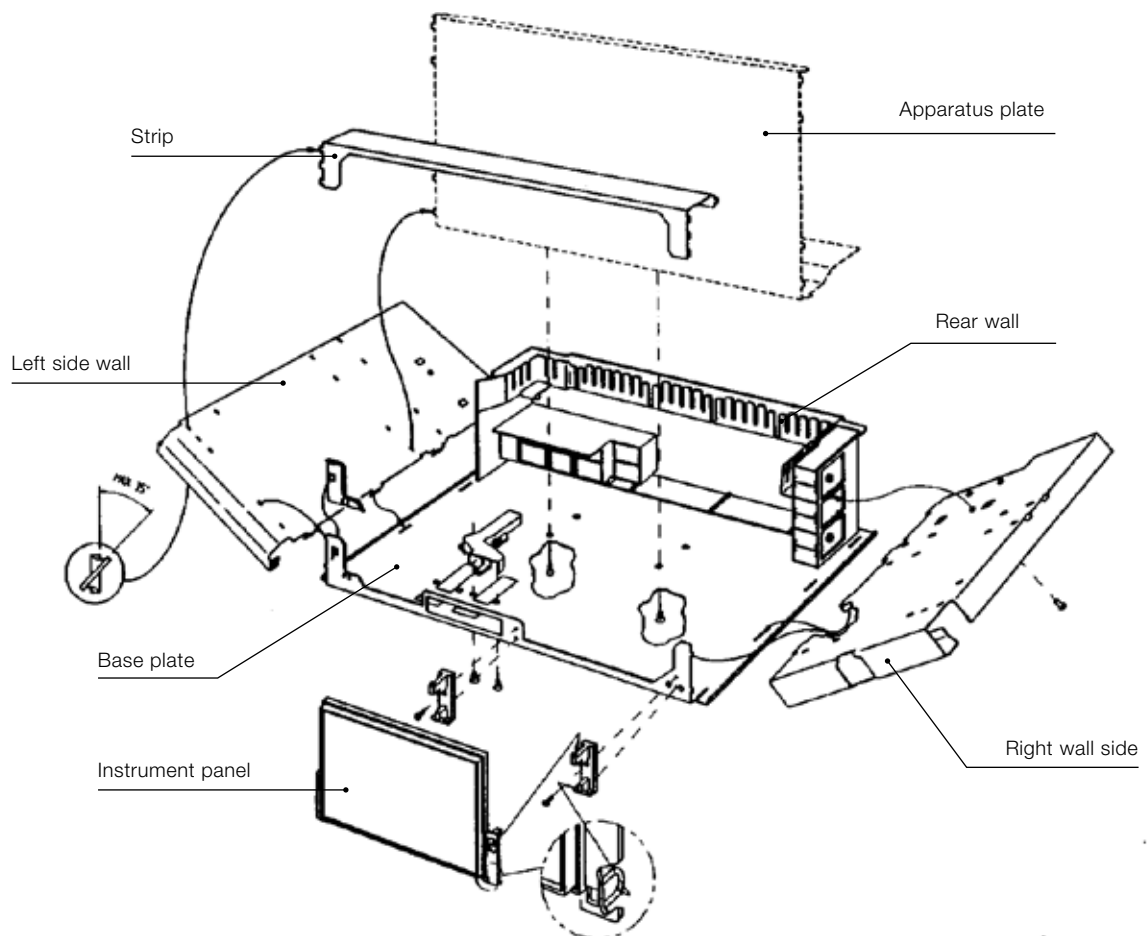

Fig. 9 Empty withdrawable unit > 6E (without electrical equipment)
- the frame-mounted module compartment (see fig. 9).